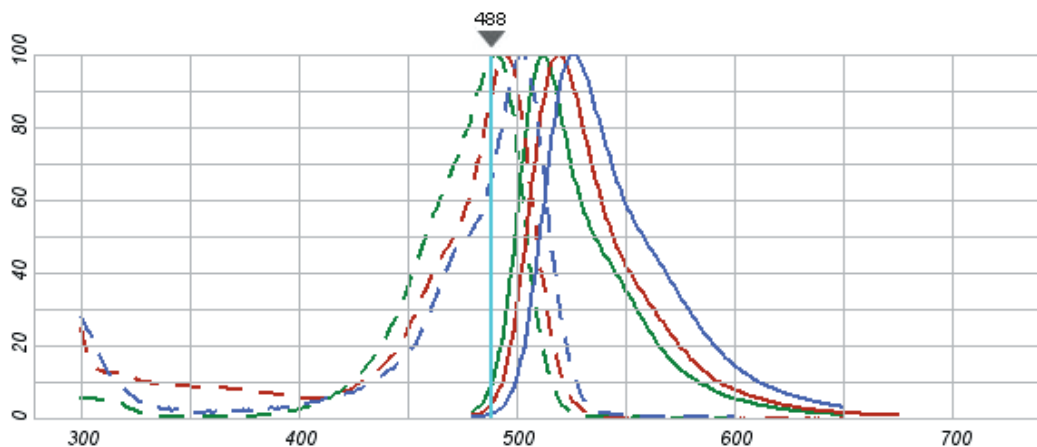

Figure 4. Overlapping Excitation and Emission Spectra
There are three points to note in the graph shown in Figure 4.
As Figure 4 illustrates, many labels of biological interest have emission spectra that are so similar that separation using narrow band filters is difficult or impossible. Multispectral analysis provides the solution to this problem and reduces the need for multiple expensive narrow-band emission filters. A single long-pass emission filter can replace a large collection of emission filters.
In other words, as illustrated in Figure 4, multispectral analysis yields (1) an autofluorescence image, (2) a MitoTracker Image, (3) a Acridine Orange image, and (4) a FITC image. By removing the autofluorescence contribution to the image, the actual signals from the applied labels (MitoTracker, Acridine Orange and FITC) can be readily seen. If these individual images are recombined using highly contrasting colors to represent the location of each of the labels, a composite image of high contrast and readily observable colors can be generated.